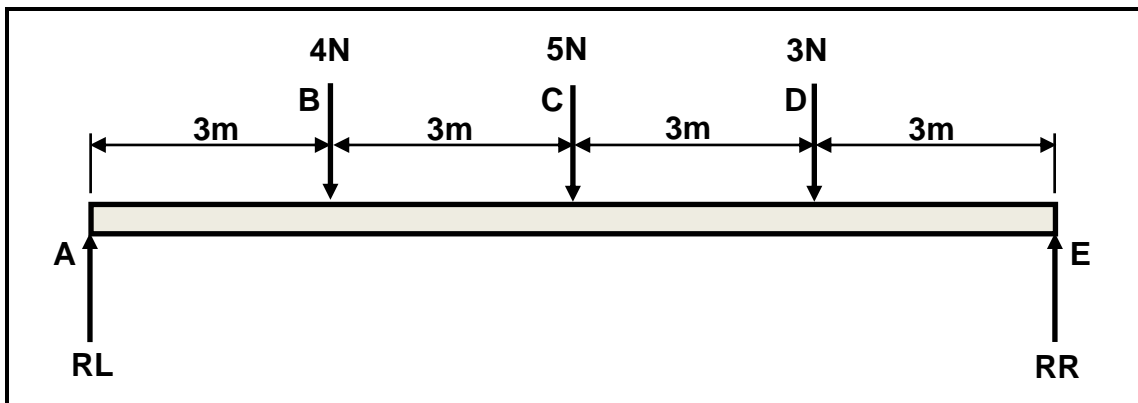

FIGURE 7.2
7.2 FIGURE 7.2 below shows a uniform beam. The beam is supported at points **RL** and **RR**. Three point loads of 4 N, 5 N and 3 N are exerted onto the beam.